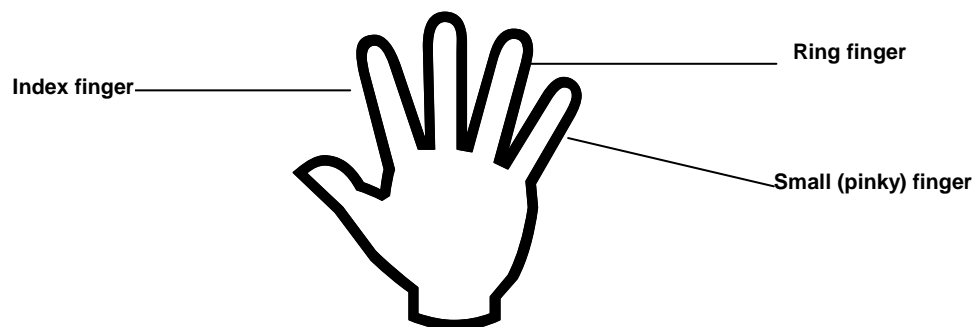

Figure 16 – Finger Designation
- The probes may be worn on any two fingers of your non-dominant hand. We recommend that the oximetry sensor and PAT probe be attached to the ring and index fingers respectively (Figure 16). The following instructions relate specifically to these fingers. Patients with very large fingers may use their small finger (pinky) for the PAT Probe.